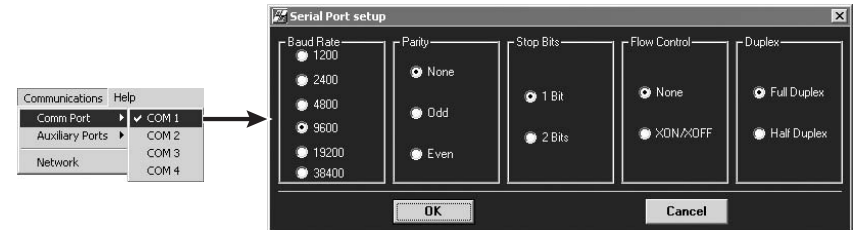

Figure 4-2 — Serial Port Setup window
3. If you need to change serial port settings, click *Communications > Comm Port > Comm 1* (or the correct *Comm* port). The Serial Port Setup window appears (figure 4-2).
- Click Inline Model > Select Address. The Addresses window (figure 4-2) appears.